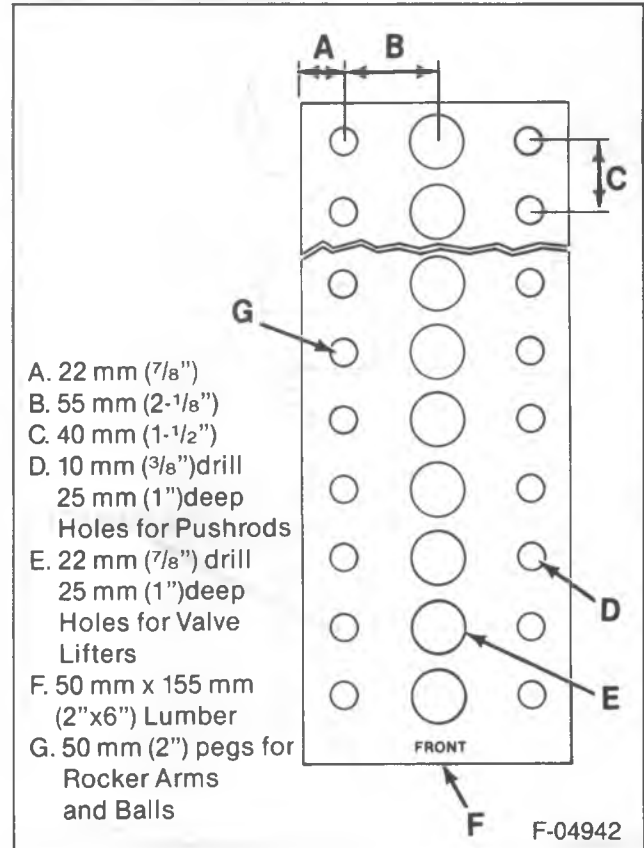
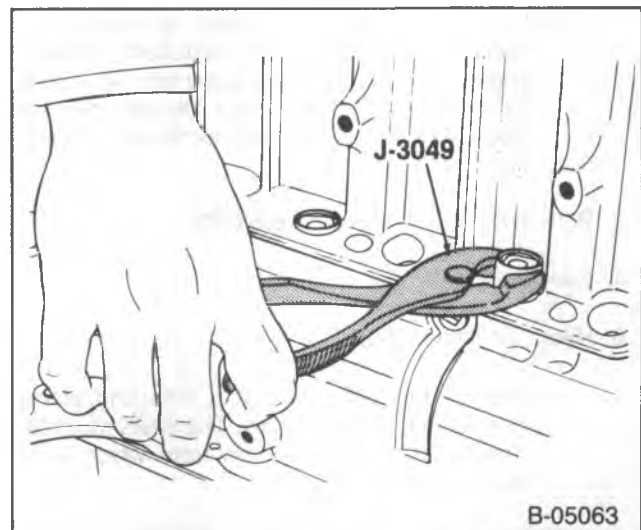
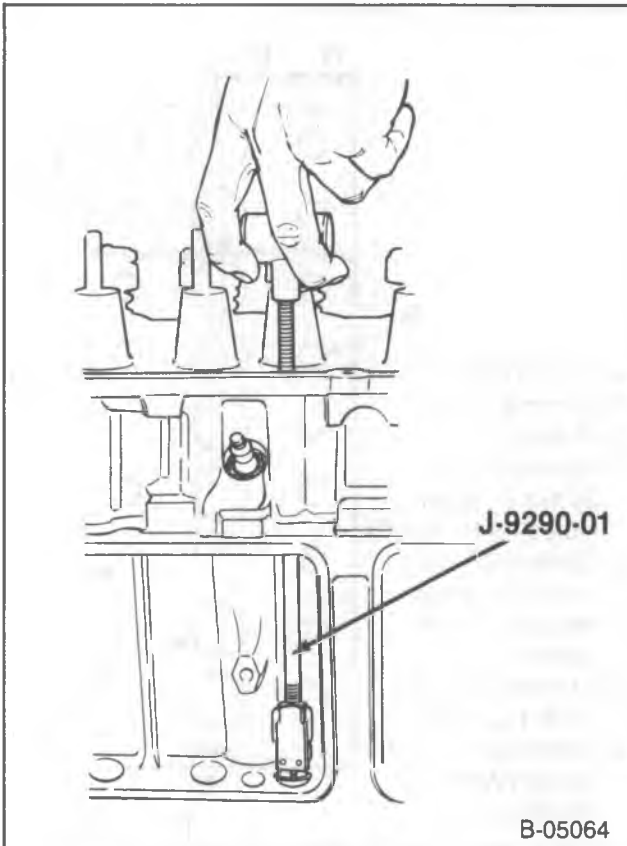

Figure 12—Valve Train Component Rack
Figure 13—Removing the Valve Lifters
Figure 14—Removing the Valve Lifters
1. Rocker arm cover (7).
- If the rocker arm cover adheres to the cylinder head (26), try to shear the gasket by bumping the end of the cover with a rubber mallet. If the cover will not come loose, carefully pry until loose. **DO NOT DISTORT THE SEALING FLANGE.**
2. Nuts (11), balls (12), rocker arms (13) and pushrods (20).
- Every effort should be made to insure that these mating parts are installed in their original locations during assembly. A simple valve train component organizer rack can be made from a piece of wood, as shown in figure 12.
3. Bolts (178) and pushrod covers (179).
4. Gaskets (114).
5. Hydraulic lifters (100).
- A stuck lifter can be removed using J-3049 (figure 13) or J-9290-01 (figure 14).